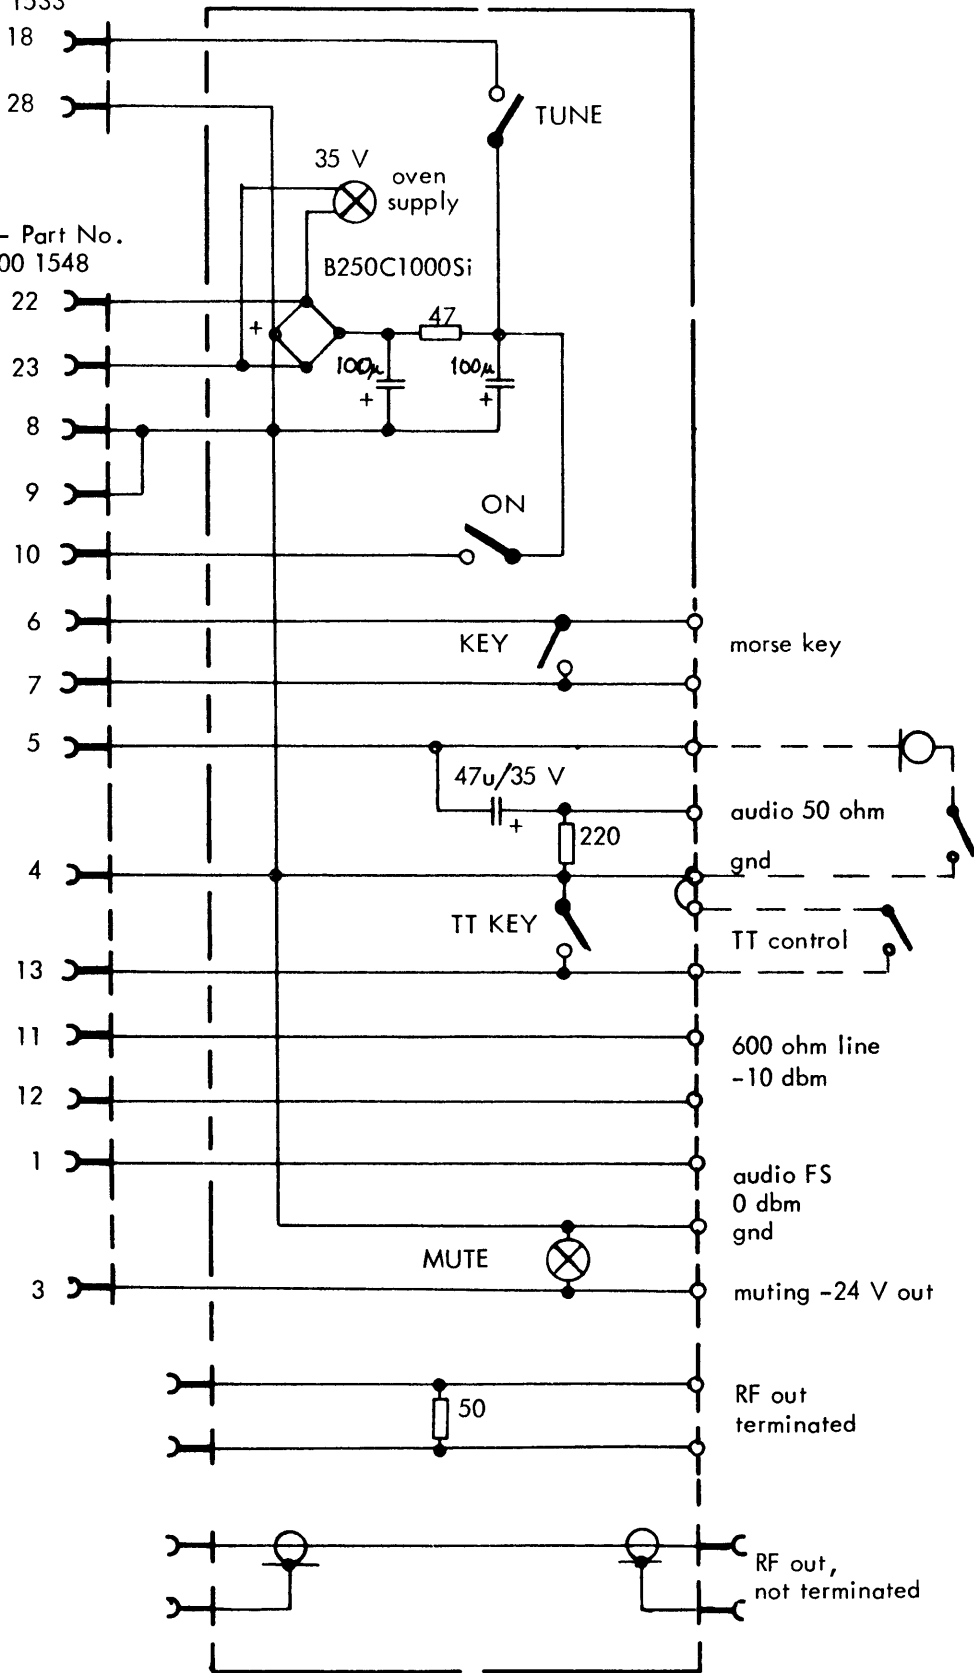

Figure 5.2 - EXCITER TEST BOX
- d. Test Connector and Control Box – refer to figure 5.2.
Under the circumstances it is assumed that the exciter is operated from the Test Box, figure 5.2 for checking out the HF and HF/MHF exciter sections. Similarly the MF Test Box, figure 5.3, is employed for testing on its own the 4 MF cards of the Card Rack. — This does by no means imply that these tests cannot be carried out with the equipment connected to the transmitter in the ordinary way.